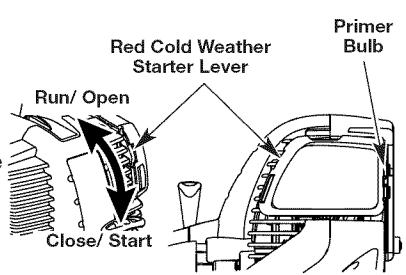

Fig. 11
IF COLD... In cold weather conditions (below 40°F), push the red cold weather start lever (Fig. 11) down to the closed position and continue to step 3. **DO NOT** push this lever down if the temperature is above 40°F.
3. Fully press and release the primer bulb 10 times, slowly. Some amount of fuel should be visible in the primer bulb (Fig. 11). If fuel can not be seen in the bulb, press and release the bulb until fuel is visible.